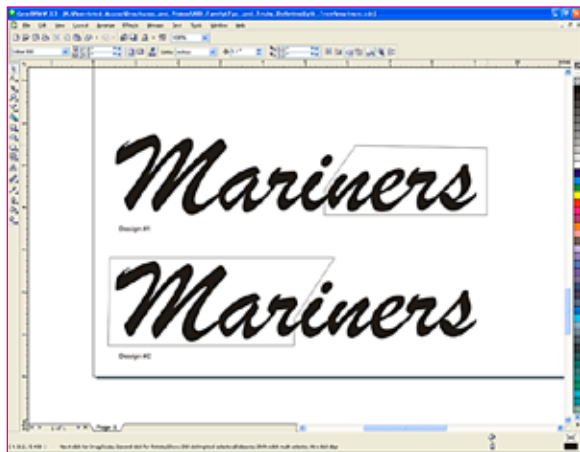

Figure 6: Use the bezier tool to define the left and right graphics.
- 2 Draw a closed shape around the right side of Design #1. Do the same around the left side of Design #2 (Figure 6).